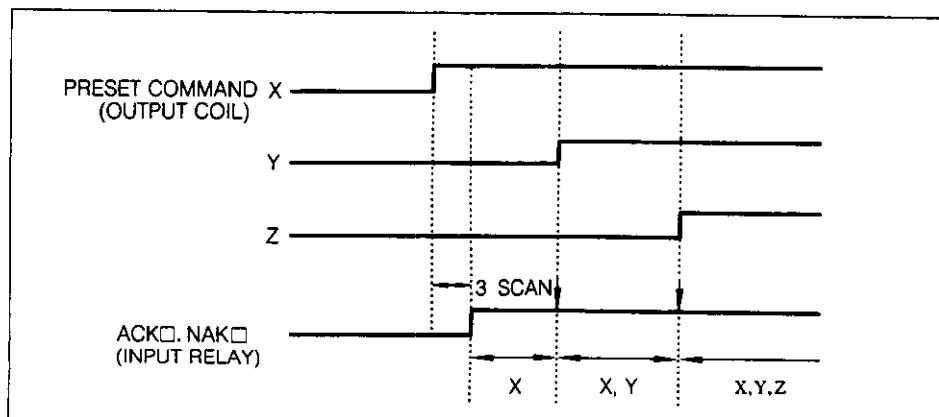

Fig. 5. 1 Responses of Preset ACK and NAK
- ② "Preset ACK□" and "Preset NAK□" input relays stay on while a preset command which satisfies ON conditions is ON. If a successive preset command is given they respond to that command. Fig. 5. 1 shows examples of responses. If in the same counter, ACK and NAK do not turn on simultaneously.